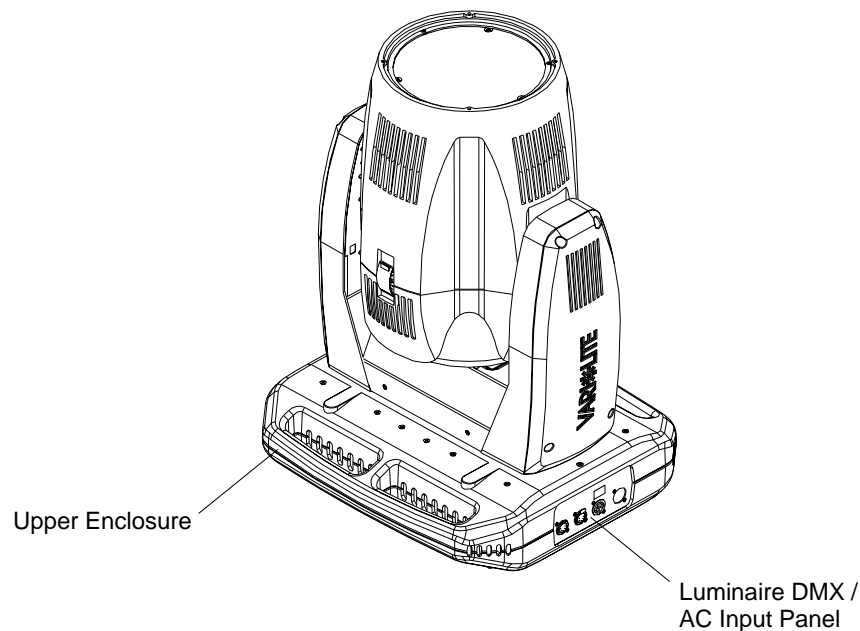

Figure 2-66: VLX Wash DMX / AC Input Panel
- Step 9. At PC, attach USB Programming Cable to available USB port and at luminaire, using other end of US Programming USB Cable, connect to DMX IN at DMX / AC Input Panel as indicated in Figure 2-66.